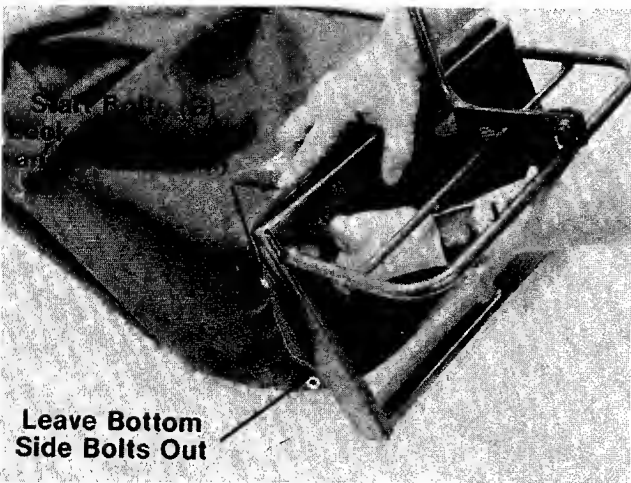

FIGURE 11.
5. Pull bag up and fasten edges (with eyelets) to front frame with 3/8" bolts (G), lock washers (H) and hex nuts (I). Finger tighten. See figure 11. Hint: For easier assembly **Do Not** fasten lower bolts on sides until after step 5.